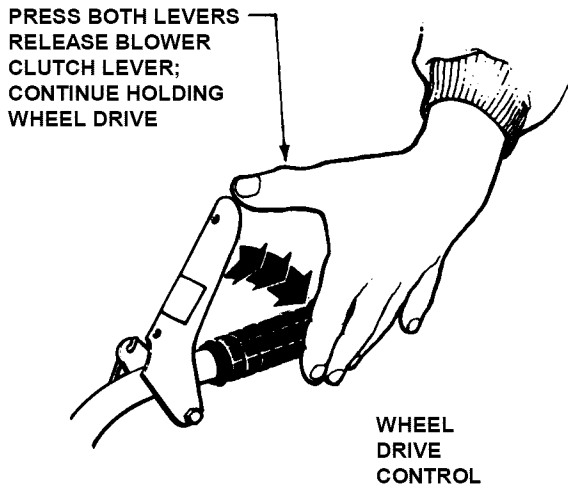

FIGURE 2.1
**2.1.3.** Check auger/impeller control and wheel drive control to insure cables are connected and both levers operate freely. See Figure 2.1.